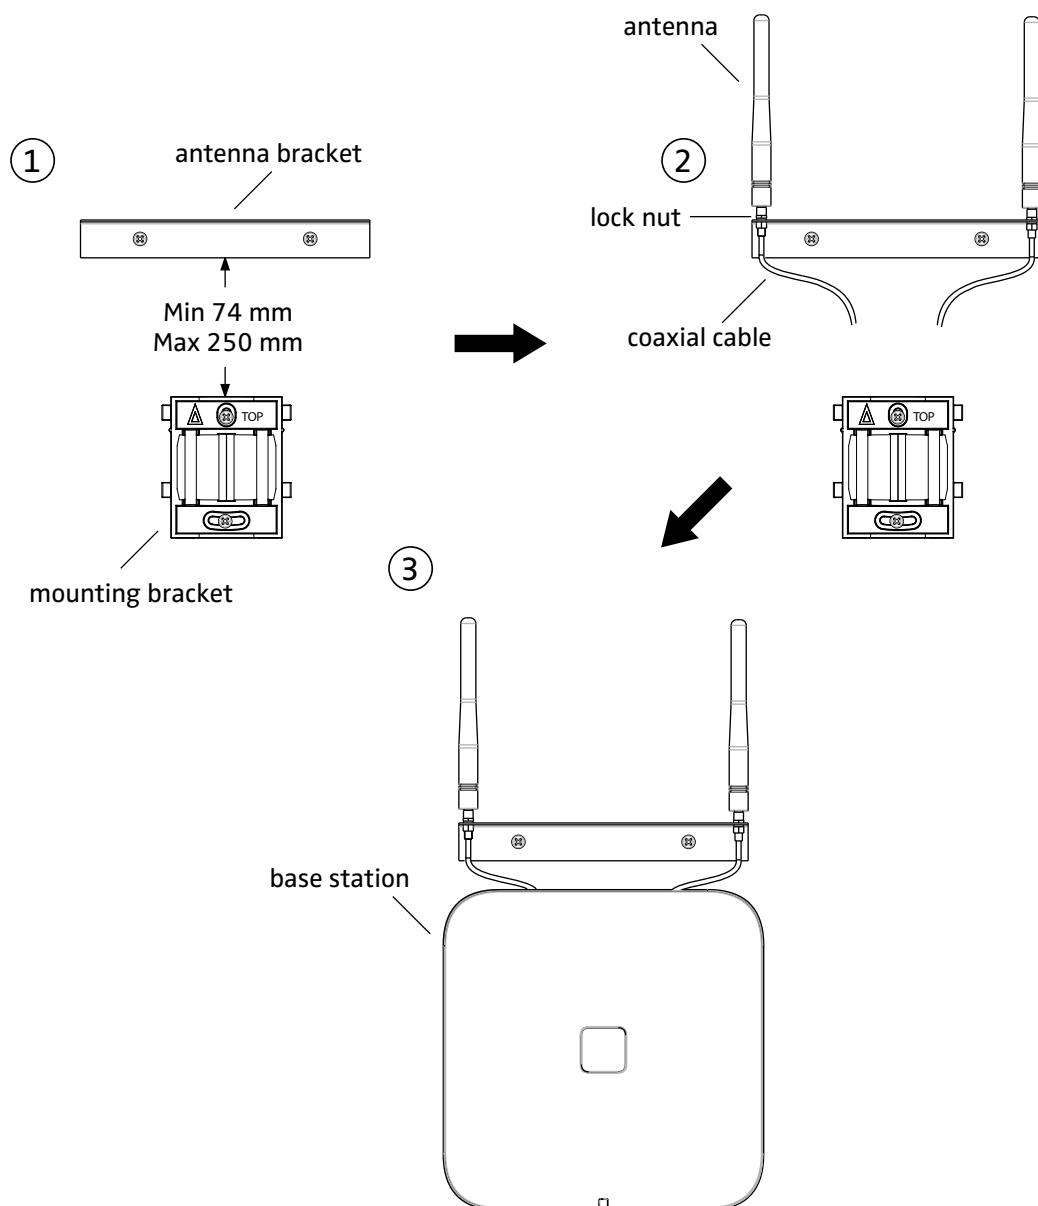

Figure 11. Connect external antennas.
- 1 Position the included antenna bracket above the mounting bracket with a minimum distance of 74 mm (250 mm maximum) and mark the two holes for the antenna bracket, see figure 11 on page 22 (1).
- 4 Mount the two included coaxial cables on the antenna bracket, see figure 11 on page 22 (2). Fasten the coaxial cables with the lock nuts which are found on the coaxial cable antenna connectors.
- 5 Mount the antennas on the antenna connectors (2).